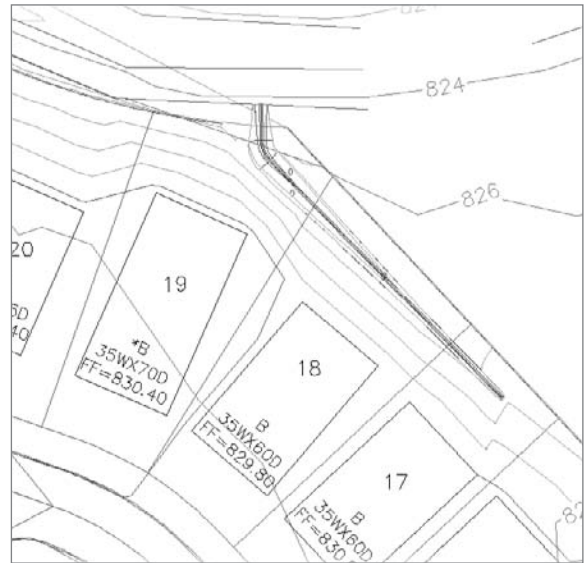

Figure 12.32
- Select the Rebuild the Surface option. When complete, your surface should look like Figure 12.32.